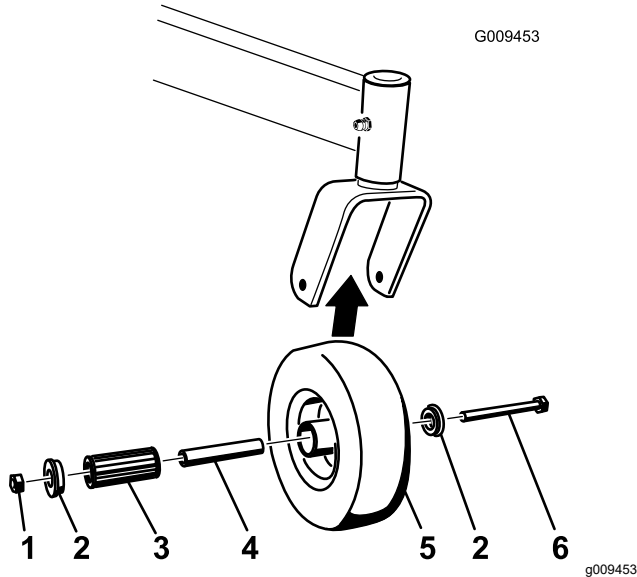

Figure 67
1. Remove the locknut and wheel bolt holding the caster wheel to the caster fork (Figure 67).
2. Remove 1 bushing, then pull the spanner bushing and roller bearing out of the wheel hub (Figure 67).
3. Remove the other bushing from the wheel hub and clean any grease and dirt from the wheel hub (Figure 67).
Note: Replace any damaged or worn parts (Figure 67).
5. Place 1 bushing into the wheel hub (Figure 67).
6. Grease the roller bearing and spanner bushing, and slide them into the wheel hub (Figure 67).
7. Place the second bushing into the wheel hub (Figure 67).
8. Install the caster wheel into the caster fork and secure it with the wheel bolt and locknut (Figure 67).
9. Tighten the locknut until the spanner bushing bottoms against the inside of the caster forks (Figure 67).